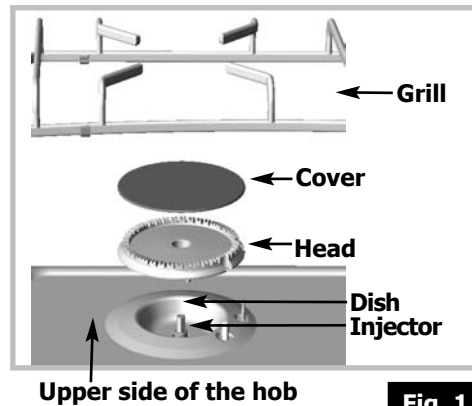

Fig. 1
- ❶ Adapt the gas connection
- ❷ Change the injectors
- ❸ Adjust the retarder on the taps
❶ **ADAPT THE HOB CONNECTION** to the new gas adjustment. Refer to the paragraph "**Gas connections**".
❷ **CHANGE THE INJECTORS** in the following way:
- Using the spanner supplied, unscrew the injectors at the bottom of each dish and remove them (**fig 1**).